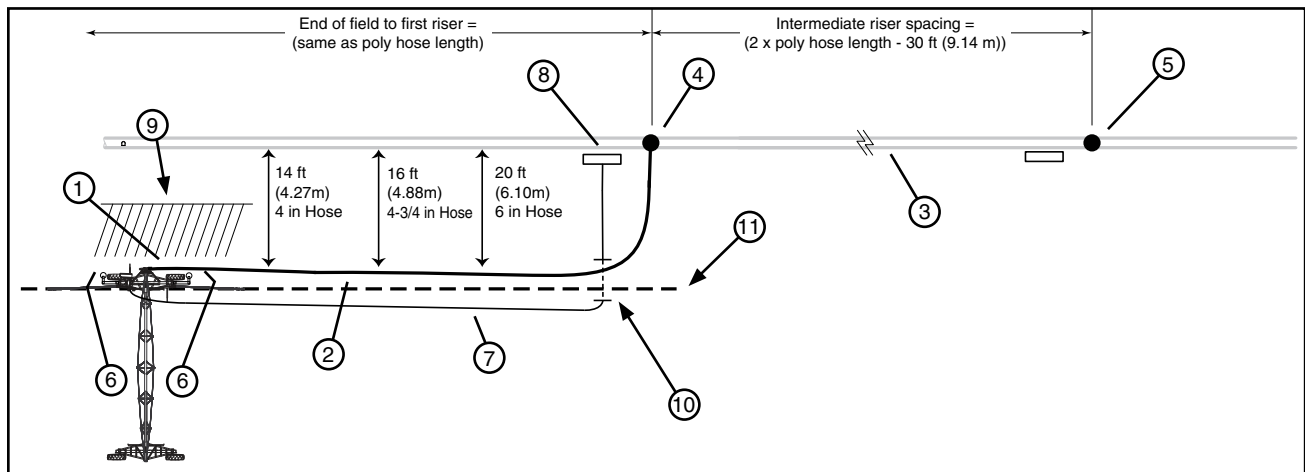

Figure 41-1 Side Inlet Hose Layout
When using the swivel inlet, position the hose and cord as shown. See figure 41-1.
- With the linear cart at the edge of the field, position the entire length of the first hose, depending on hose diameter. Place the hose inline with or slightly outside of the swivel elbow. After the first pass the hose will be positioned properly and does not need to be moved again. See figures 41-1.